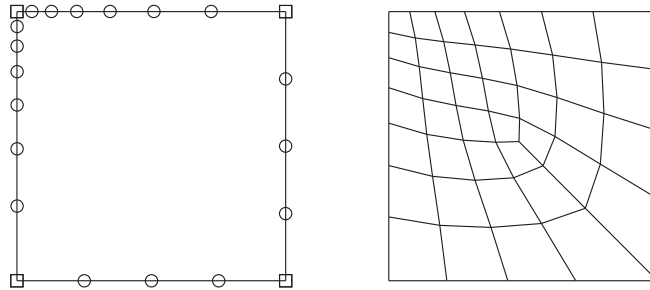

Figure 17–1 A model with biased seeding.
- You can specify the density of a mesh by creating seeds along the edges of the model to indicate where the corner nodes of the elements should be located. For example, Figure 17–1 displays a model with biased seeding along the top and left edges.